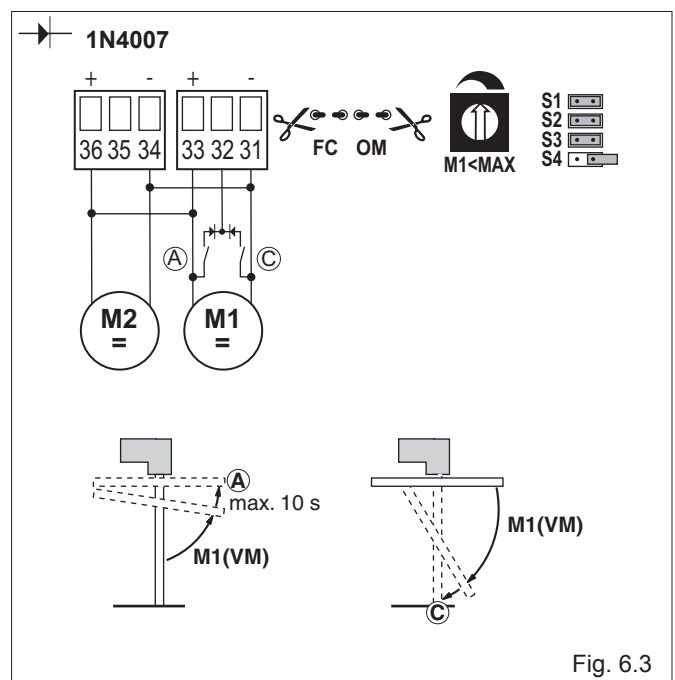

Fig. 6.3
**(Fig. 6.3) Use with a stop limit switch**